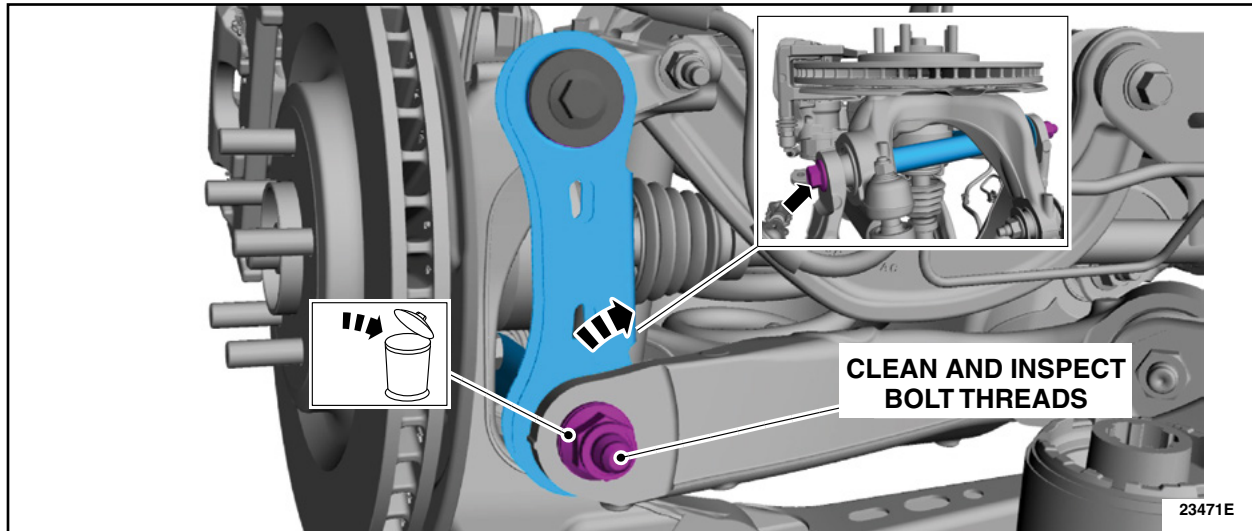

FIGURE 6
11. Remove and discard the LH rear lower arm vertical link lower nut. Then, remove, clean and inspect the LH rear lower arm vertical link lower bolt threads. If the threads are not damaged, apply LOCTITE® 263™, or equivalent (Obtain locally), and reuse the bolt and order a *new* nut. If the threads are damaged order a *new* nut and bolt. See Figure 6.